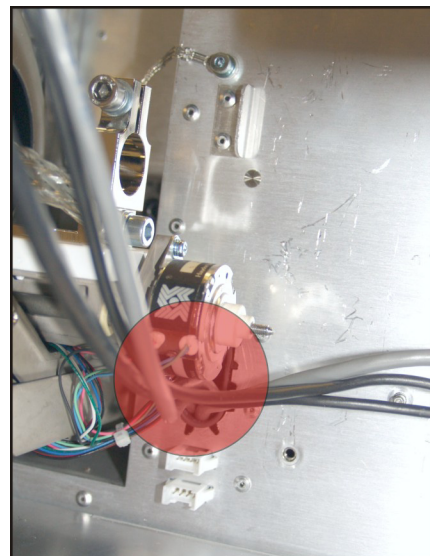

Figure 5-32 Hold Behind Shroud
10. Slide the harnesses out of the cardcage compartment using the hole behind the shroud (**Figure 5-32**).